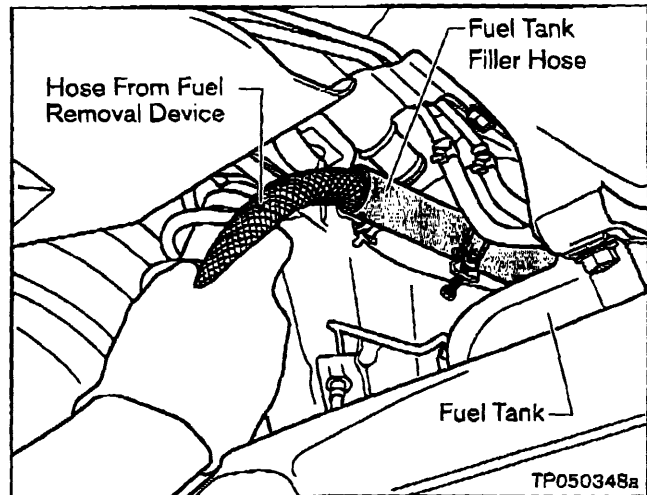

Figure 7
10. If the Fuel Tank level is over 1/8 full, use a suitable fuel removal device to pump fuel out of the Fuel Tank Filler Hose (see Figure 7).